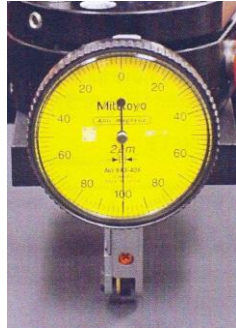

Figure 8: Indicator marking the number 100.
8. Set the indicator needle to 100 (Figure 8) on the dial by rotating the vertical adjustment knob.